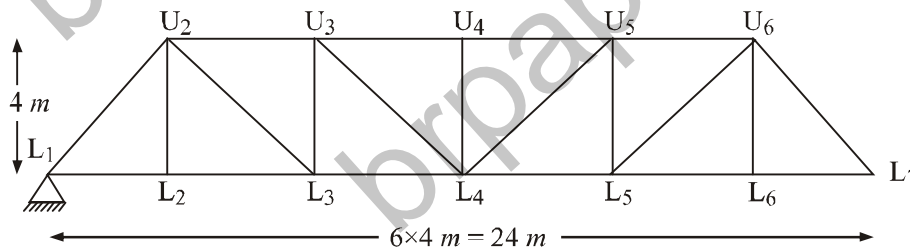

Figure 5
9. Draw influence line diagram for the forces in the members U_2L_3 , U_3L_3 , U_2L_2 of a through type bridge truss as shown in figure 5.